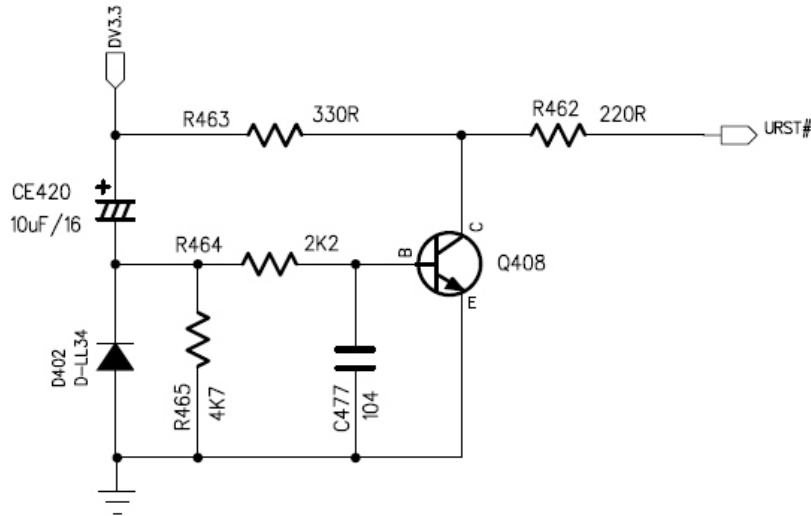

Figure 3.2.12.1 Reset circuit diagram
1. Reset circuit is shown as in the following figure 3.2.12.1: